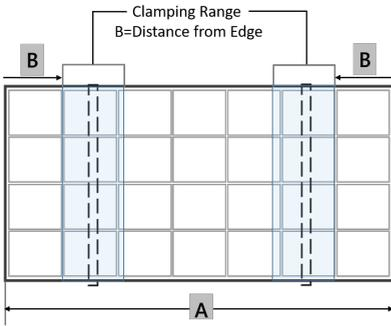
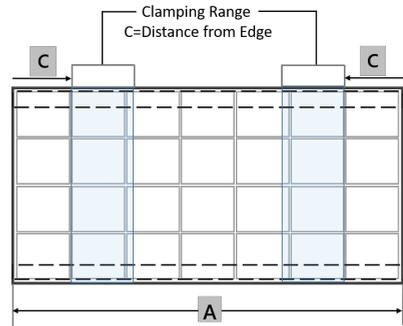

Figure 1: Mounting rails located perpendicular to the module's long side
Figure 2: Mounting rails located beneath the module's long side
Depending on the module type, it may be positioned and clamped to the mounting rails in one of two arrangements. The schematic illustrations in *Figure 1* and *Figure 2* show the positioning of the module with respect to the mounting rails. The schematics also indicate the clamping range, **B** and **C**, for each arrangement. *Table 1* lists the module types, their dimensions, clamping range values and provides the tested mechanical load thresholds for each module type.
For exact frame clamping locations refer to area B in *Figure 1* and the Clamping Range as indicated in *Table 1*.
4. For mounting the supporting rails on the frame, slide bolts through the rail grooves next to the four clamp locations. Clamp positions are of crucial importance for the reliability of the installation. The clamp center lines must only be positioned within the ranges indicated in *Figure 1*, *Figure 2*, and *Table 1*, depending on the configuration and load.
For the permitted location of the clamps on the long side of module frame, refer to *Figure 1* and *Table 1*.